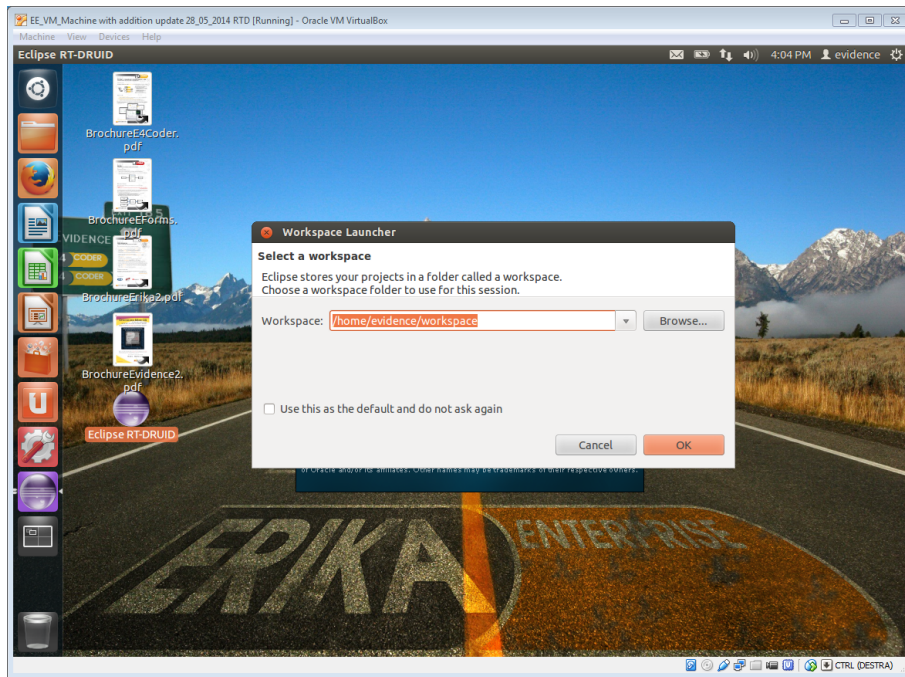
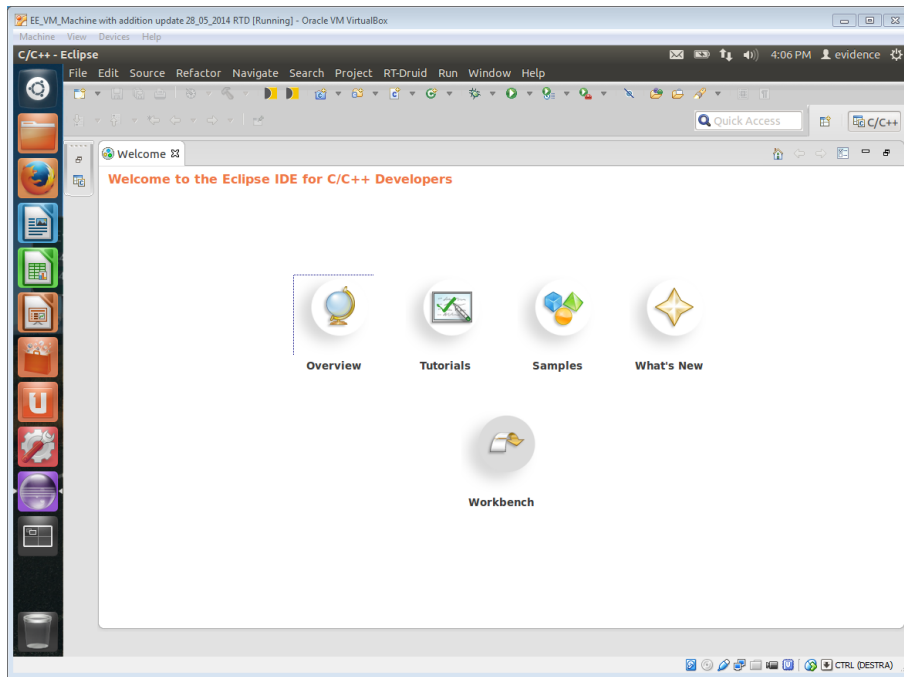

Figure 3.2: Eclipse requires the workspace location. Leave the default setting.
Figure 3.3: The Eclipse welcome screen.
2. Double click on it, and Eclipse will open requiring the workspace location. Please confirm the default location `/home/evidence/workspace` as in Figure 3.2. The Eclipse welcome screen will appear as in Figure 3.3. Click on the Workbench icon, and the default Eclipse view will appear.